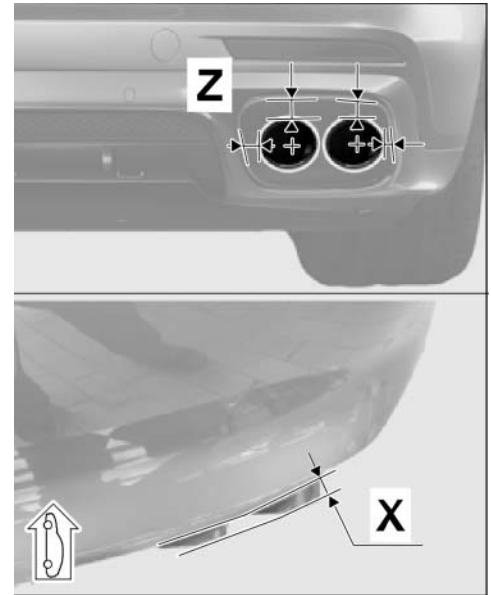

Figure 28
- 3.6.2 Check that the gap = "dimension Z" between the new sports tailpipes and exhaust system cover (rear apron – left and right side of vehicle ⇒ *Figure 28 -Z-*) is symmetrically constant.
- 3.6.3 Check that the sports tailpipes project equally = "dimension X" with respect to the rear apron (left and right side of vehicle ⇒ *Figure 28 -X -*).